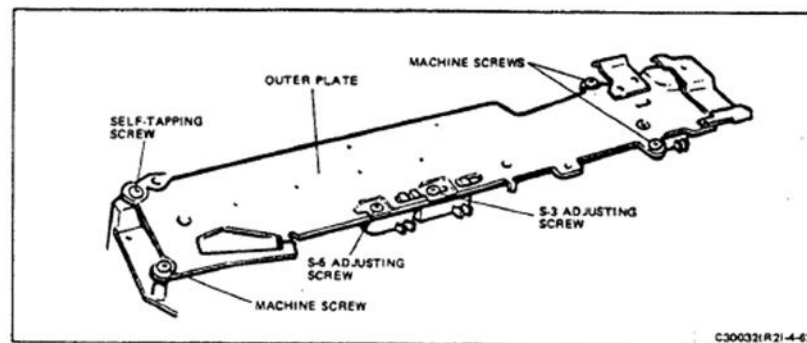

FIGURE 4-62 OUTER PLATE MOUNTING SCREWS
8. Refer to Figure 4-62. Remove the gear-train assembly mounting screws. Note that three are machine screws but the fourth is a self-tapping screw. Note its location for reference.